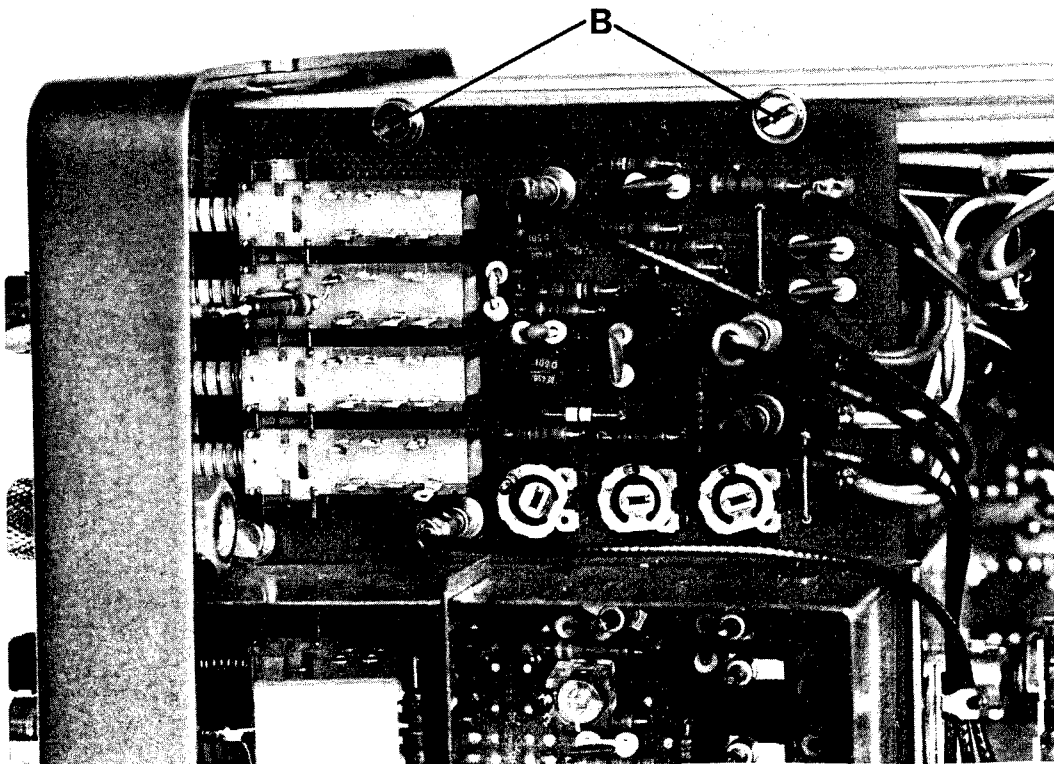

Fig. 3.5. Removing the front assembly (screws B)
- Remove the two screws B that hold the attenuator to the frame bar (Fig. 3.5.)